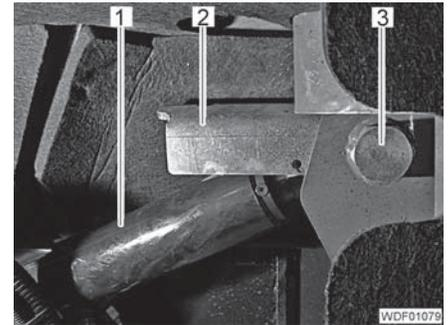

Fig. 413 Hydraulic cylinder attachment
- Unscrew the screw (Fig. 413,3).
- Lift out the hydraulic cylinder (Fig. 413,1).
- Position the cab securing device (Fig. 413,2) and hydraulic cylinder (Fig. 413,1).
- Screw in and tighten the screw (Fig. 413,3).